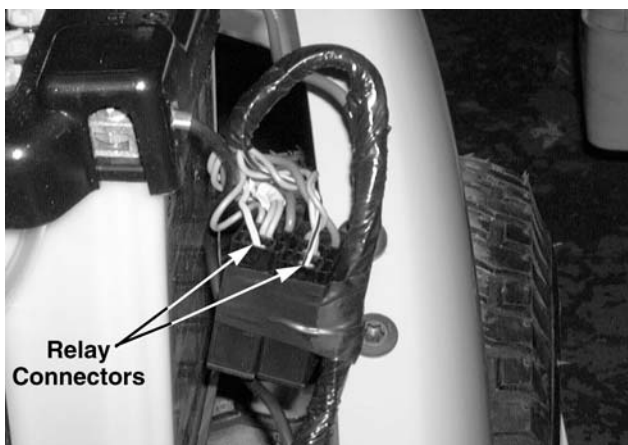

Figure 8-92.
33. Locate the relay connector with the yellow/white wire running into it. See Figure 8-92.